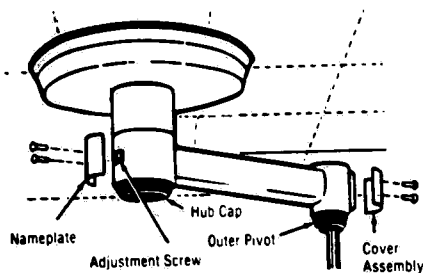

Figure 3-6. INSPECT BRUSHES.
3.3.7 Inspect Brushes (See Figure 3-6)